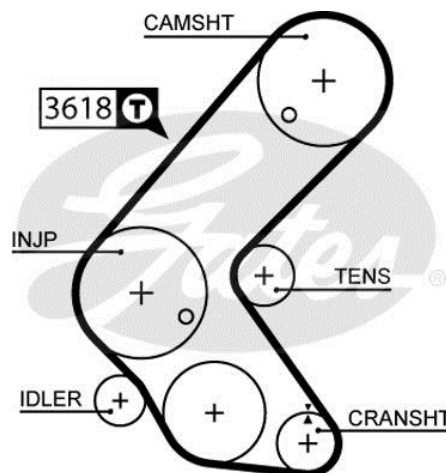

Fig. 7
** After completing step 10 of the installation in procedure A), or step 9 in procedure B), it is highly recommended to check the tension in span **T**, (see drive system layout below - Fig. 7) using Gates Sonic Tension Tester STT-1.